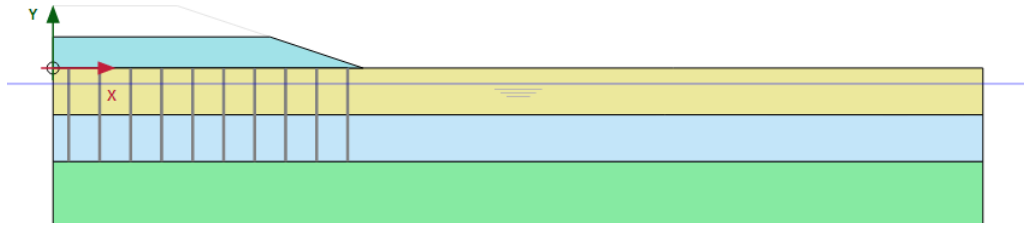

Figure 9–9: Configuration of the phase 1
- 5 In the **Staged construction mode** activate the first part of the embankment. The model for phase 1 is shown in Figure 9–9 \(p. 153\).